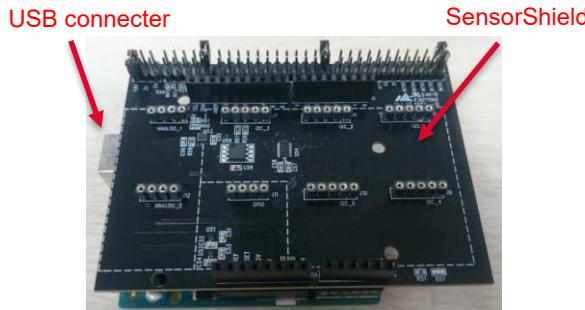

Figure 1. Connection between the Arduino and the
1. Connect the Arduino and the SensorShield (Figure 1)